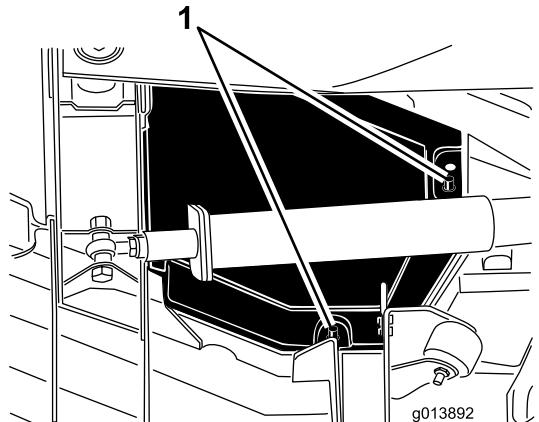

Figure 66
4. Lift the rear and inside cover edges off the mounting posts (Figure 66).